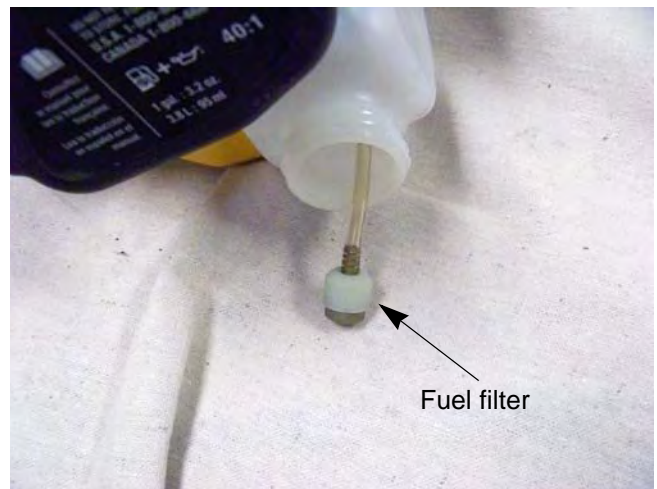

Figure 5.7
3. Stick the hook end of the wire into the fuel tank and fish out the fuel filter. See Figure 5.7.